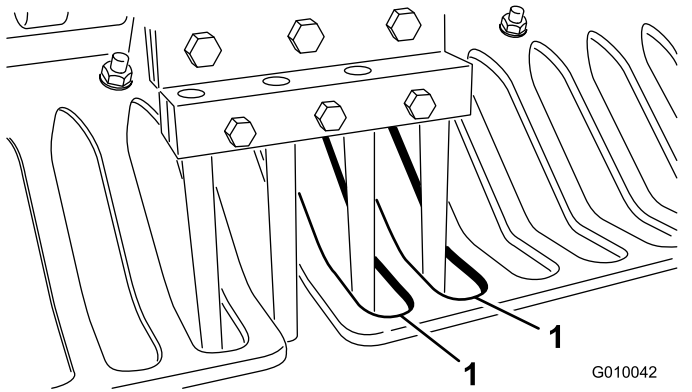

Figure 26
7. Check that the tines line up with the center of the gaps in the turf guards (Figure 26). Adjust the turf guards as required and tighten the nuts.